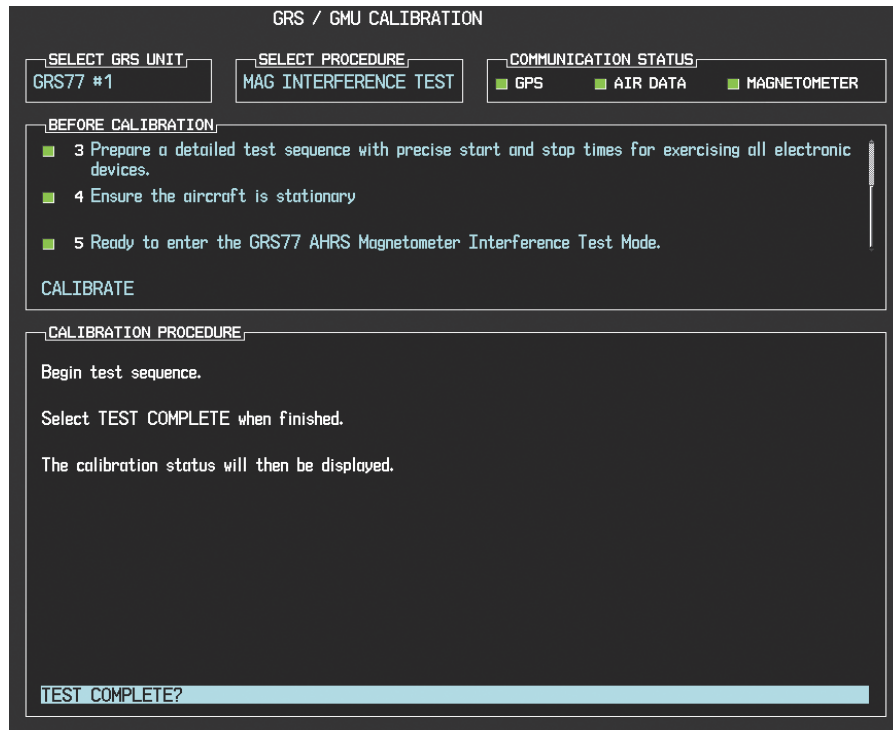

Figure 7-10. Magnetometer Interference
1. Enter Configuration Mode and go to GRS/GMU Calibration page as shown in Figure 7-10.